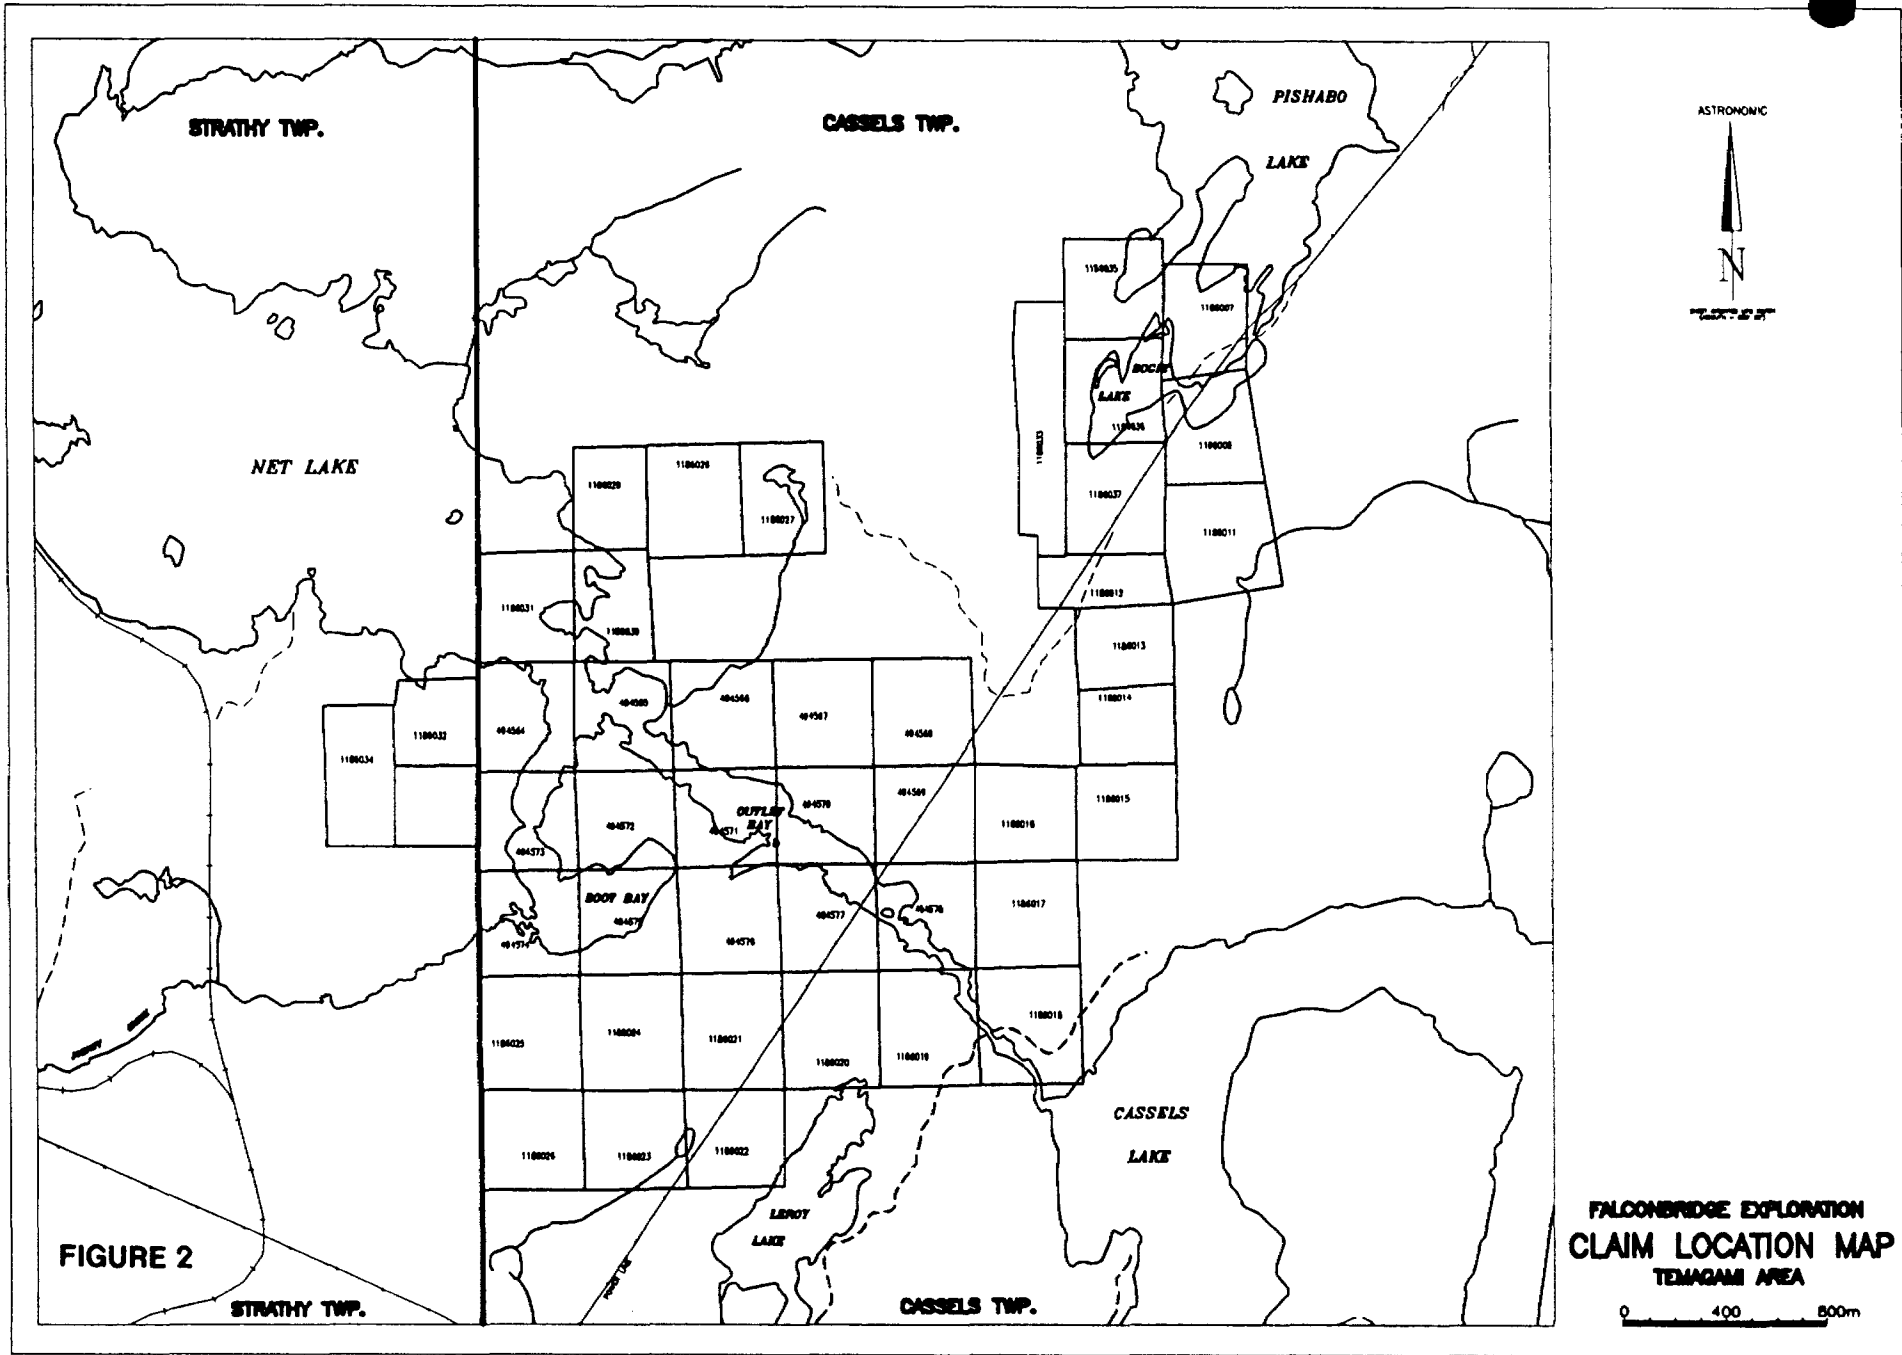

FIGURE 2
- FIGURE 2 Location of Claim Block